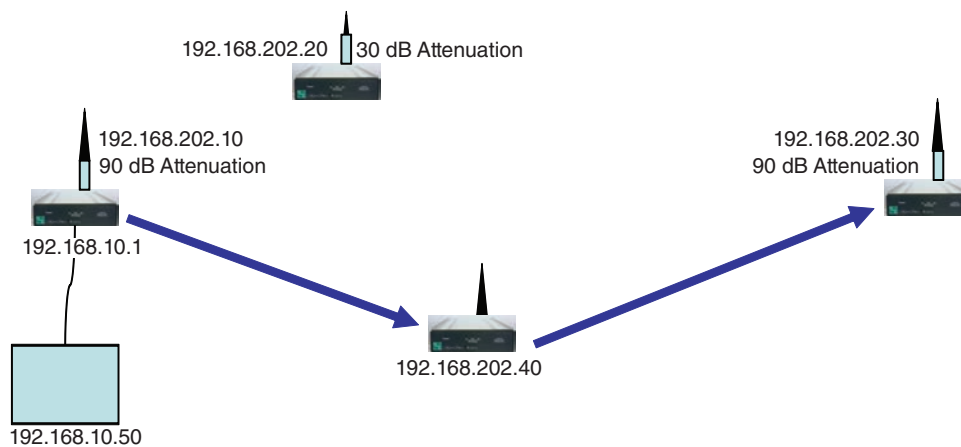

Figure 35. Testing for alternate routing.
STEP 1. Install one 30dB attenuator between the antenna and the antenna connector of Radio 20. See Figure 35 for the network diagram.
STEP 4. Observe the route from Radio #10 to Radio #30 is through Radio #40. See Figure 35. C:\>ping 192.168.202.30 -t. C:\>tracert 192.168.202.30.